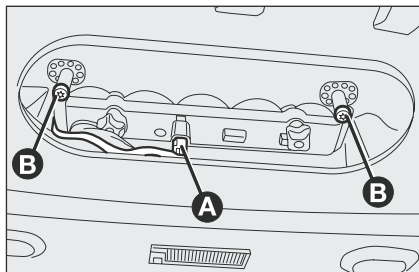

fig. 17
- disconnect the electric connector **A**-fig. 17;
- unscrew the two laterals pivots **B**-fig. 17;